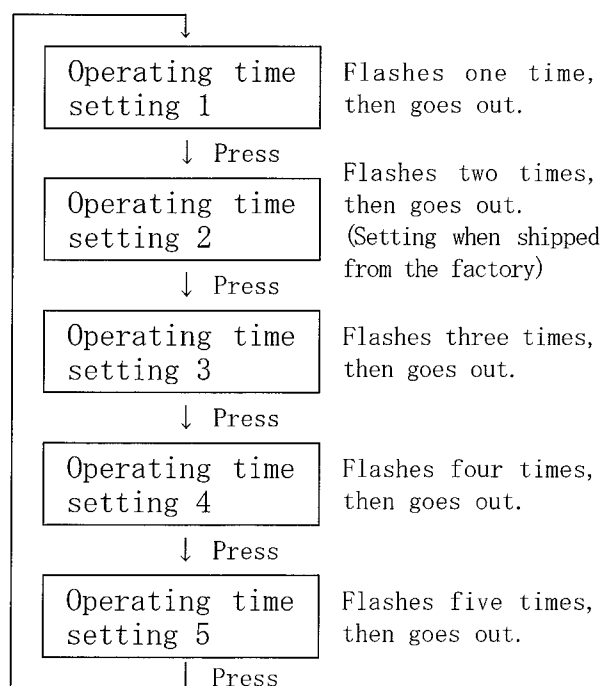

Fig. 18
- (4) When the knee switch is pressed, the solenoid operates and the flashing frequency of the power lamp③ changes. Every time the knee switch① is pressed, the operating time changes as shown in Fig. 18.